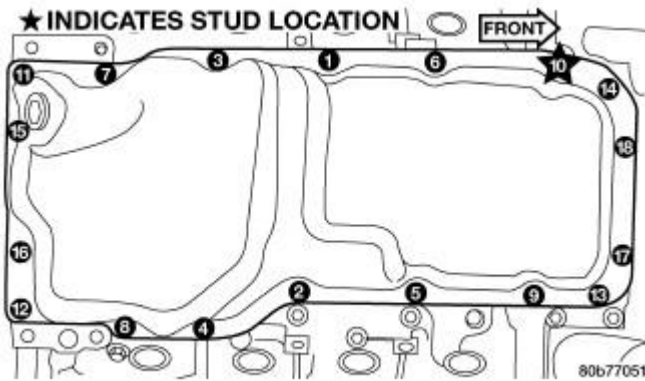

Fig. 194: Oil Pan Tightening Sequence
3. Position the oil pan and install the mounting bolts. Tighten the mounting bolts to 15 N.m (11 ft. lbs.) in the sequence shown in illustration. See **Fig. 194**.